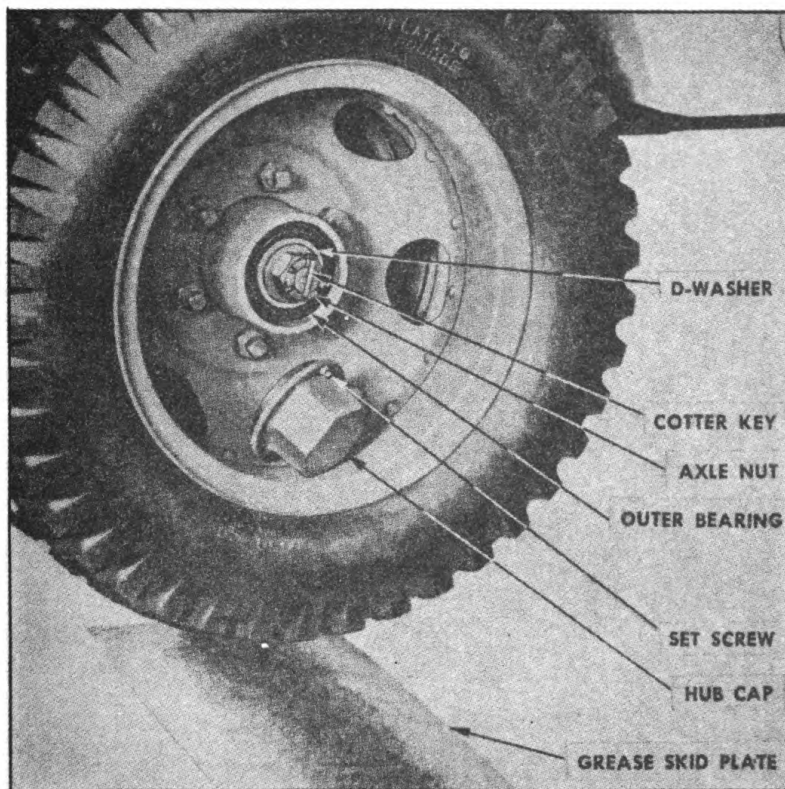

FIGURE 72. REAR OUTER WHEEL ASSEMBLY
3. OUTER WHEEL ASSEMBLY, REAR AXLE (Figure 72).—a. Removal. To remove the axle hub assembly from the axle, proceed as follows: